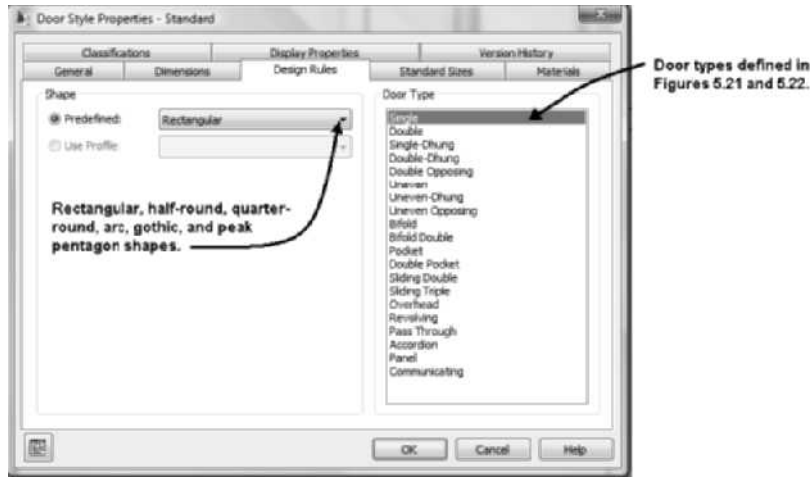
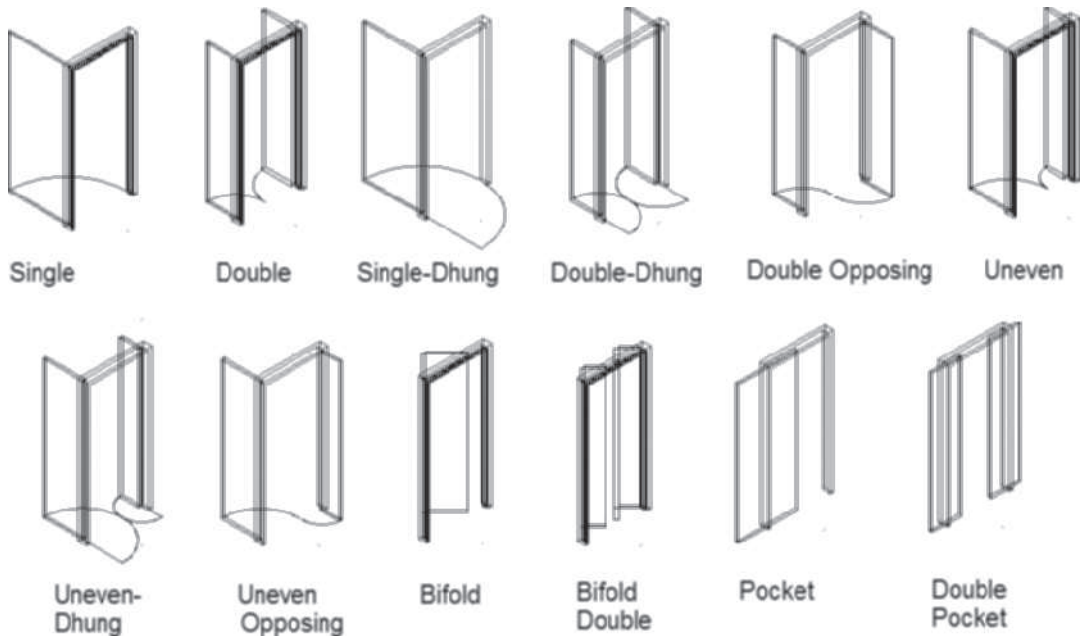
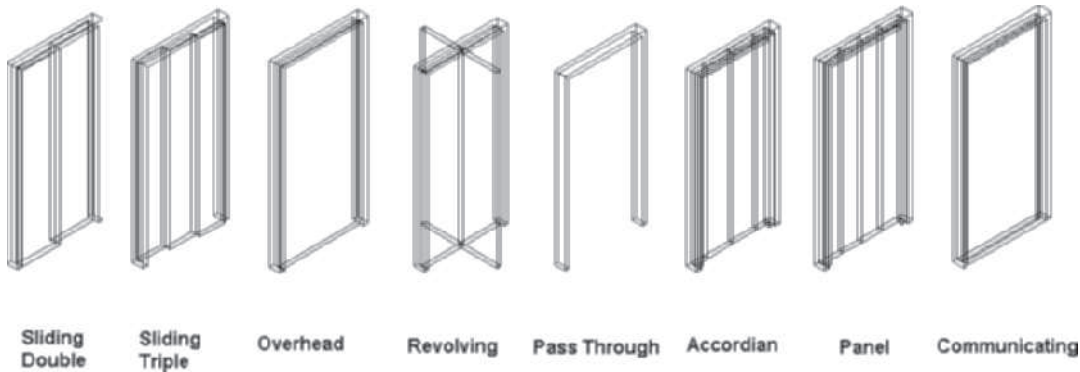

FIGURE 5.20 Design Rules tab of the Door Style Properties dialog box
FIGURE 5.21 Door types available in AutoCAD Architecture
FIGURE 5.22 Door types including the Overhead garage door
8. Choose the **Design Rules** tab as shown in Figure 5.20. The Design Rules tab allows you to choose from the following list of Predefined shapes: rectangular, half-round, quarter-round, arch, gothic, and peak pentagon. This list is extensive and satisfactory for most design applications. The Use Profile radio button is active if an AEC Profile is defined in the drawing. The AEC Profile is converted from a closed polyline and applied to define the shape of a door.
9. The **Door Type** list shown in Figure 5.20 allows you to select from a list of door types. The types of doors that can be created are shown in Figures 5.21 and 5.22. The name assigned to each type is shown below the figure. Note that the garage door is named Overhead and is shown in Figure 5.22.